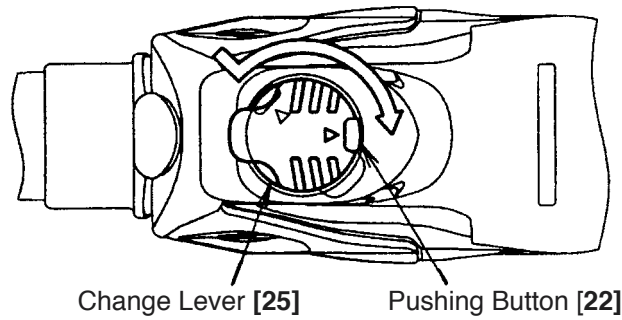

Fig. 15
(3) Disassembly of the striking mechanism section
Push in the Second Hammer [28] with a drill bit or a screwdriver. Remove the Striker [36] chucked by O-ring (C) [33]. Push the Pushing Button [22] fully when the Change Lever [25] is positioned "Rotation Only" (⚙️ mark) as shown in Fig. 15. Then turn the Change Lever [25] by 135° clockwise. Ply out the Change Lever [25] at this position. Remove the Tapping Screw (W/Flange) D5 x 90 [9] from the Gear Cover [10] and remove the Gear Cover [10].